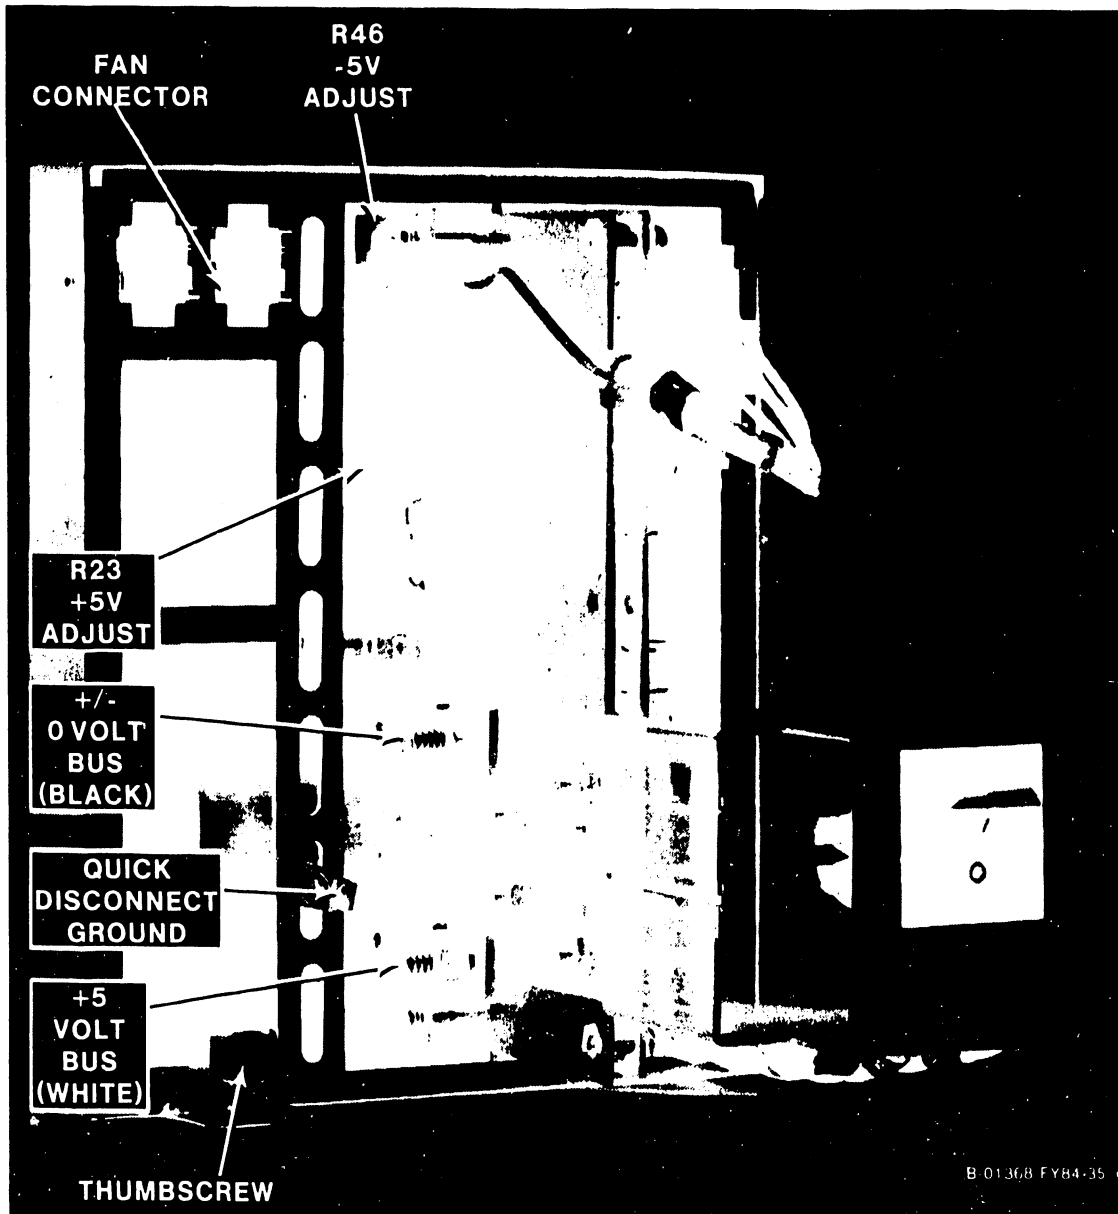

Figure 5-26. Switching Power Supply (Left Side View)
To remove the 279-0608 Switching Power Supply: (Figures 5-26 and 5-27.)
5. With a nonmetallic adjustment tool, adjust the voltage(s) to within the operating limits. (See figures 5-26 and 5-27 for the locations of the adjustment pots.)